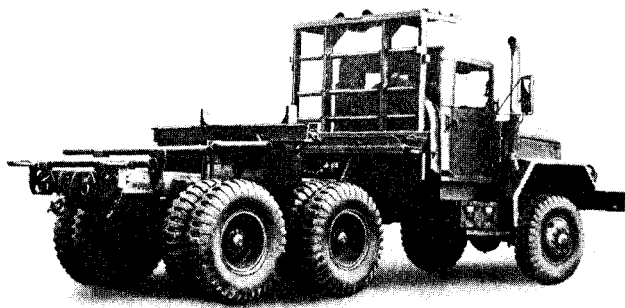

Figure 2-4. Truck, logging, bolster, 5-ton, 6x6, M815.
d. *Truck, Logging, Bolster, M815 (Fig 2-4).* This truck has a 179-inch wheel base and is normally used in conjunction with the P14 bolster trailer for transporting utility poles, bridging sections, etc. The cab is standardly equipped with a sheet metal top.